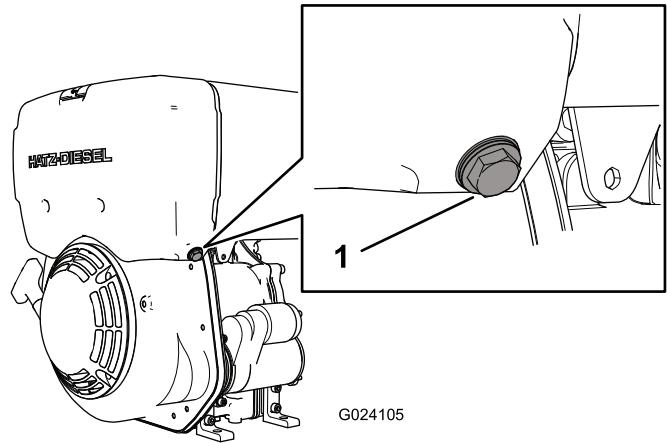

Figure 27
- Loosen the water-trap bolt 3 to 4 rotations (Figure 27).